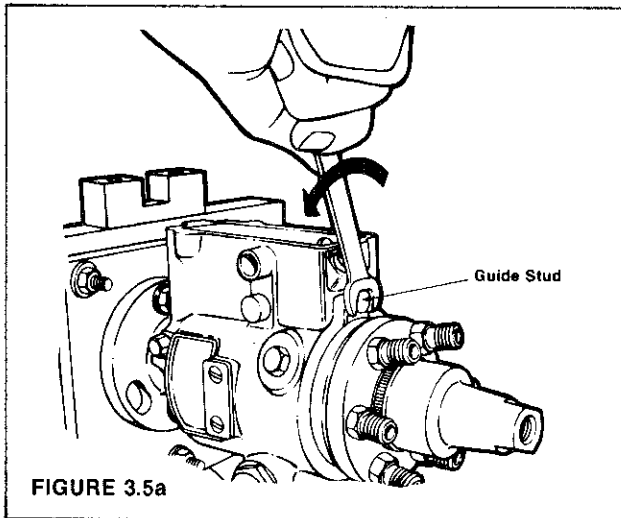

FIGURE 3.5a
STEP 5 Loosen the guide stud. (Figure 3.5a)